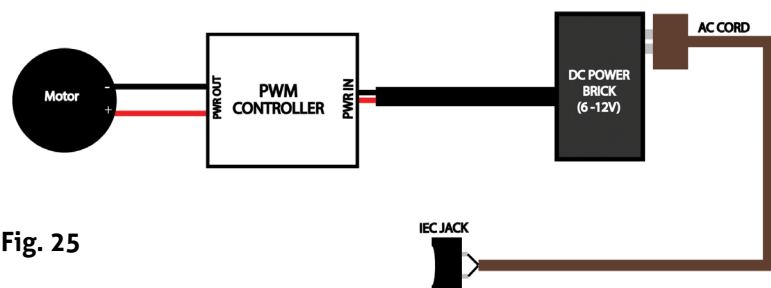

Fig. 25
Step 32. Now it's time to hook up your electronics, following the easy wiring diagram in **Fig. 25**. The red line represents the positive and the black line represents the negative wires of both the motor and power supply. Once you've wired everything up, you can organize the power supply and wires any way you like inside the cab—just keep everything clear of the rotating baffle.